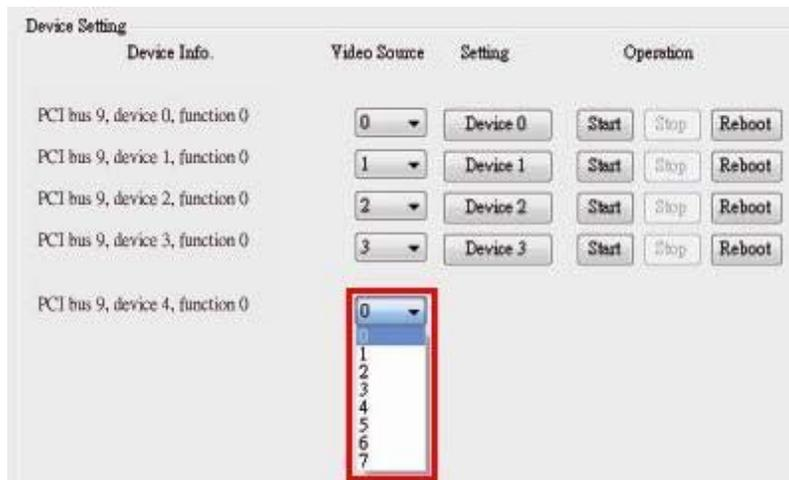

Figure 2-7: Select Transmitter Bus for HDC-304E
Step 6: **This step is only required for the HDC-302E.** Select the transmitter bus (2 or 3) (Figure 2-7). For example, when the Device0 button is selected to decode the encoded file, please select 2 from the device2 (transmitter bus) drop-down menu to display the video on HDMI display device via video output port. Please refer to the following table:
Step 7: **This step is only required for the HDC-304E.** Select the transmitter bus from 4 to 7 (Figure 2-7). For example, when the Device0 button is selected to decode the encoded file, please select 4 from the device4 (transmitter bus) drop-down menu to display the video on HDMI display device by output kit. Please refer to the following table: